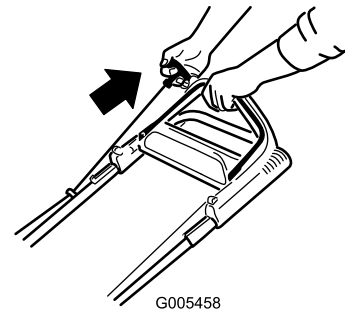
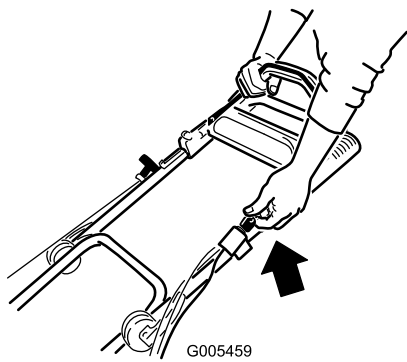

Figure 14
Figure 15
3. Pull the recoil starter (Figure 14) or turn the ignition key as shown in Figure 15 (model 447E only).